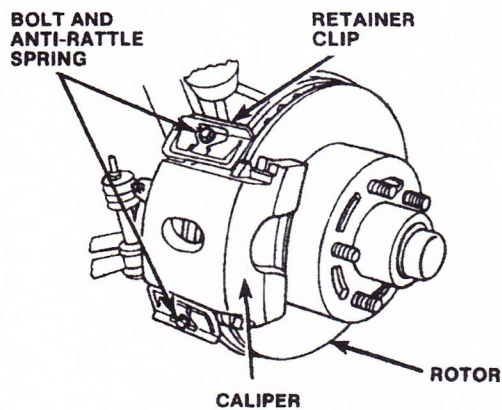
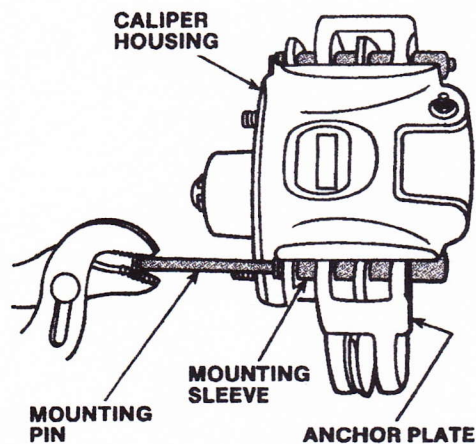

FIGURE 40-18 Sliding caliper removal.
FIGURE 40-19 Floating caliper removal.
7. On a sliding caliper, remove the top bolts, retainer clip, and antirattle springs (Figure 40-18). On a floating caliper, remove the two special pins that hold the caliper to the anchor plate (Figure 40-19). On an older type fixed caliper, remove the bolts holding it to the steering knuckle. On all three types, get the caliper off by prying it straight up and lifting it clear of the rotor.